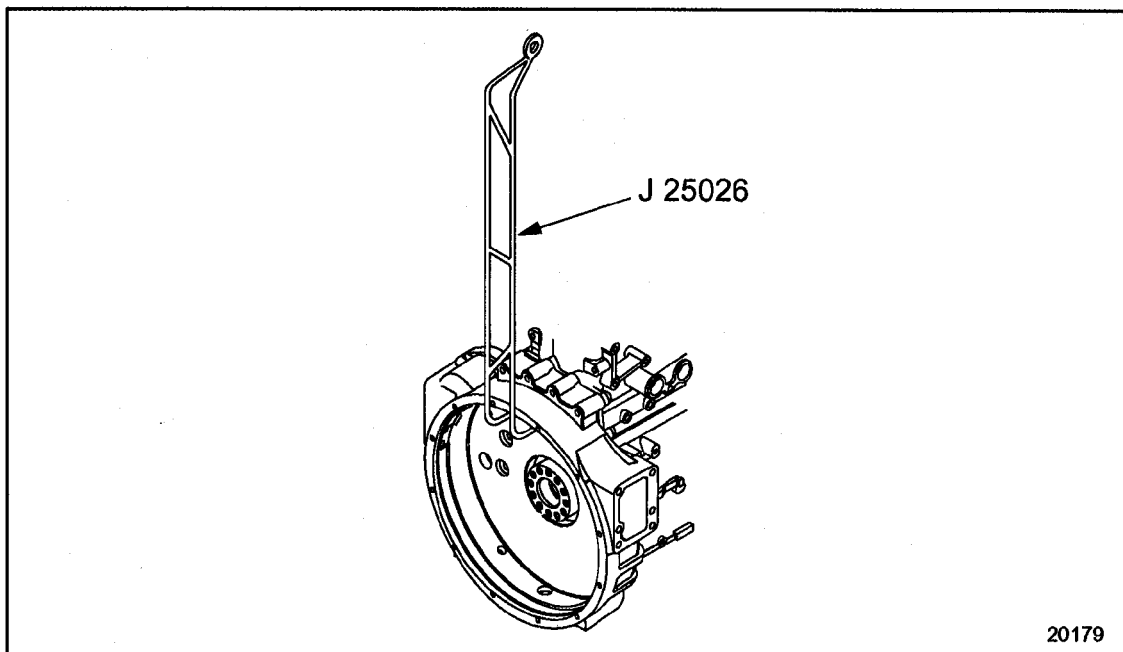

Figure 1-224 Flywheel Removal
7. Attach the flywheel lifting tool, J 25026, or some other suitable lifting device, to the flywheel. See Figure 1-224.